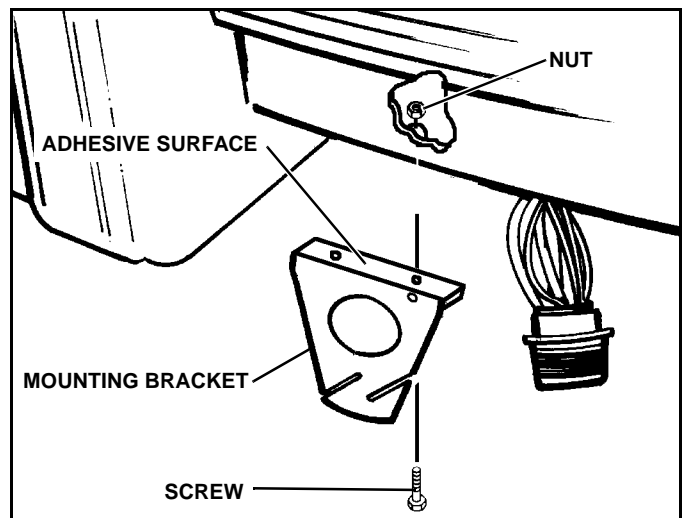

Figure 1-2
4. Peel the protective backing from the adhesive strip on the Mounting Bracket and carefully position the bracket on the mounting surface. Clamp the bracket in place with a C-clamp and allow it to stay clamped for at least 20 minutes. For permanent mounting, drill two (2) 9/32" holes into the mounting surface using the holes in the bracket as a template, and secure with two (2) 1/4" screws and nuts. (See Figure 1-2)